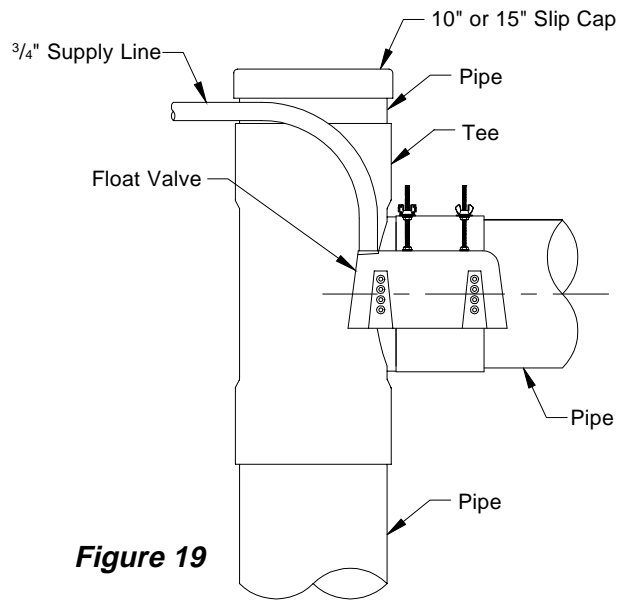

Figure 19
- 1) Installation Instructions for Float Valve (Catalog No. EC1231) are included with the Float Valve, see QM1124. **Figure 19** shows the Float Valve installed.